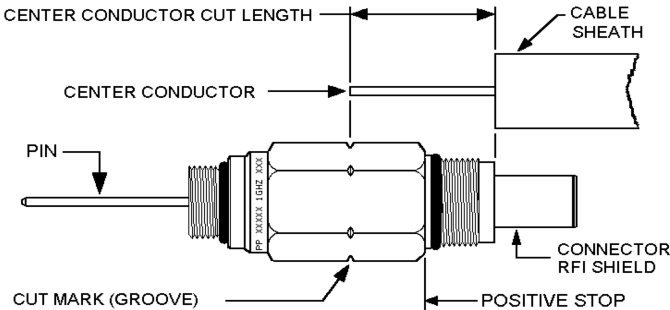
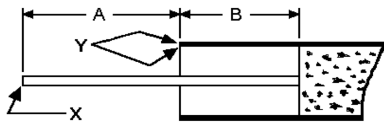

Figure 2 - Center Conductor Cut Mark
Figure 1 - Preparation Dimensions
2. Trim the outer sheath and dielectric over the length of dimension "A". See **Figure 1**. PPC pin and splice connectors have a center conductor length CUT MARK on the body. Align the connector and cable as shown in **Figure 2**. This will allow you to prepare the proper center conductor length without guesswork.